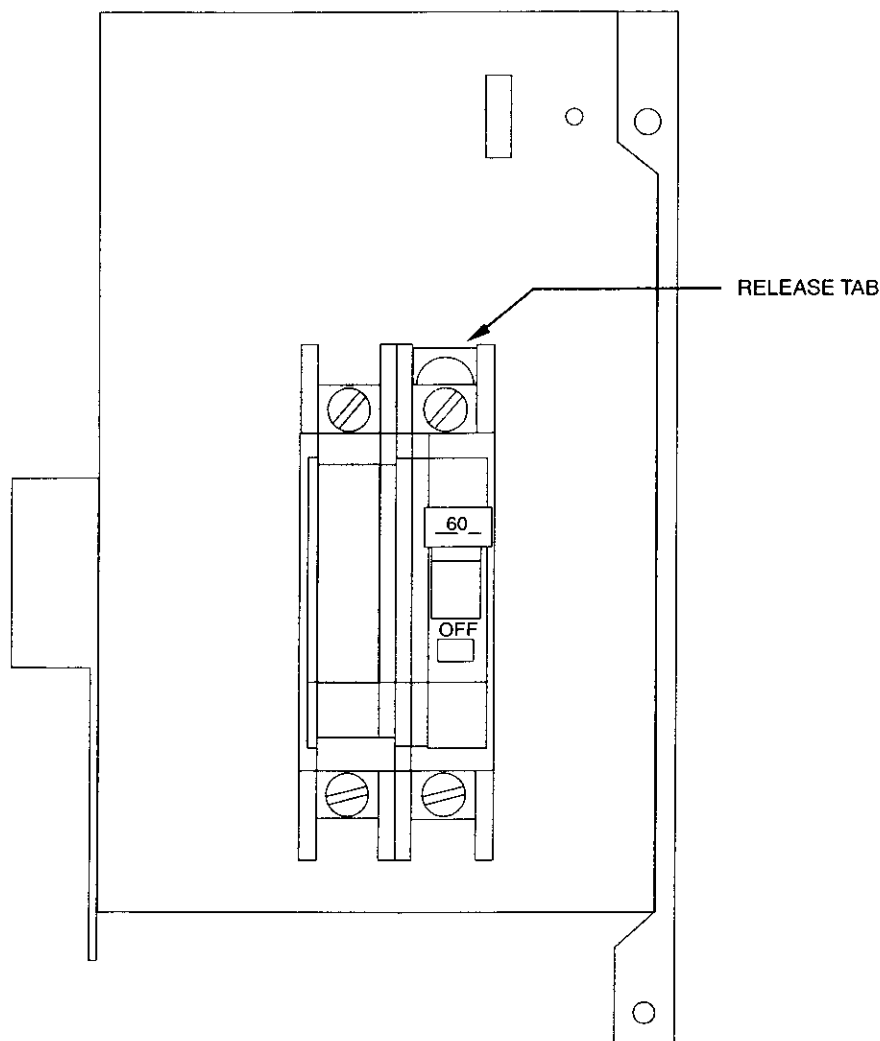

Fig. 16—Conversion of Circuit Breaker
2. Pull white plastic release tab on the bottom of circuit breaker straight out to release circuit breaker from bracket. (See Fig. 16.)